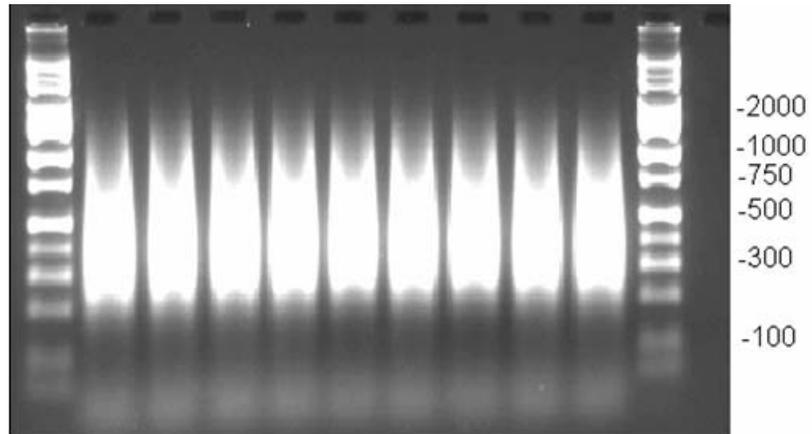

Figure 4.6 Example of PCR products run on 2% TBE agarose gel at 120V for 1 hour. Average product distribution is between ~200 to 1100 bp.
11. Verify that the PCR product distribution is between ~200 bp to 1100 bp (see Figure 4.6 on page 83).